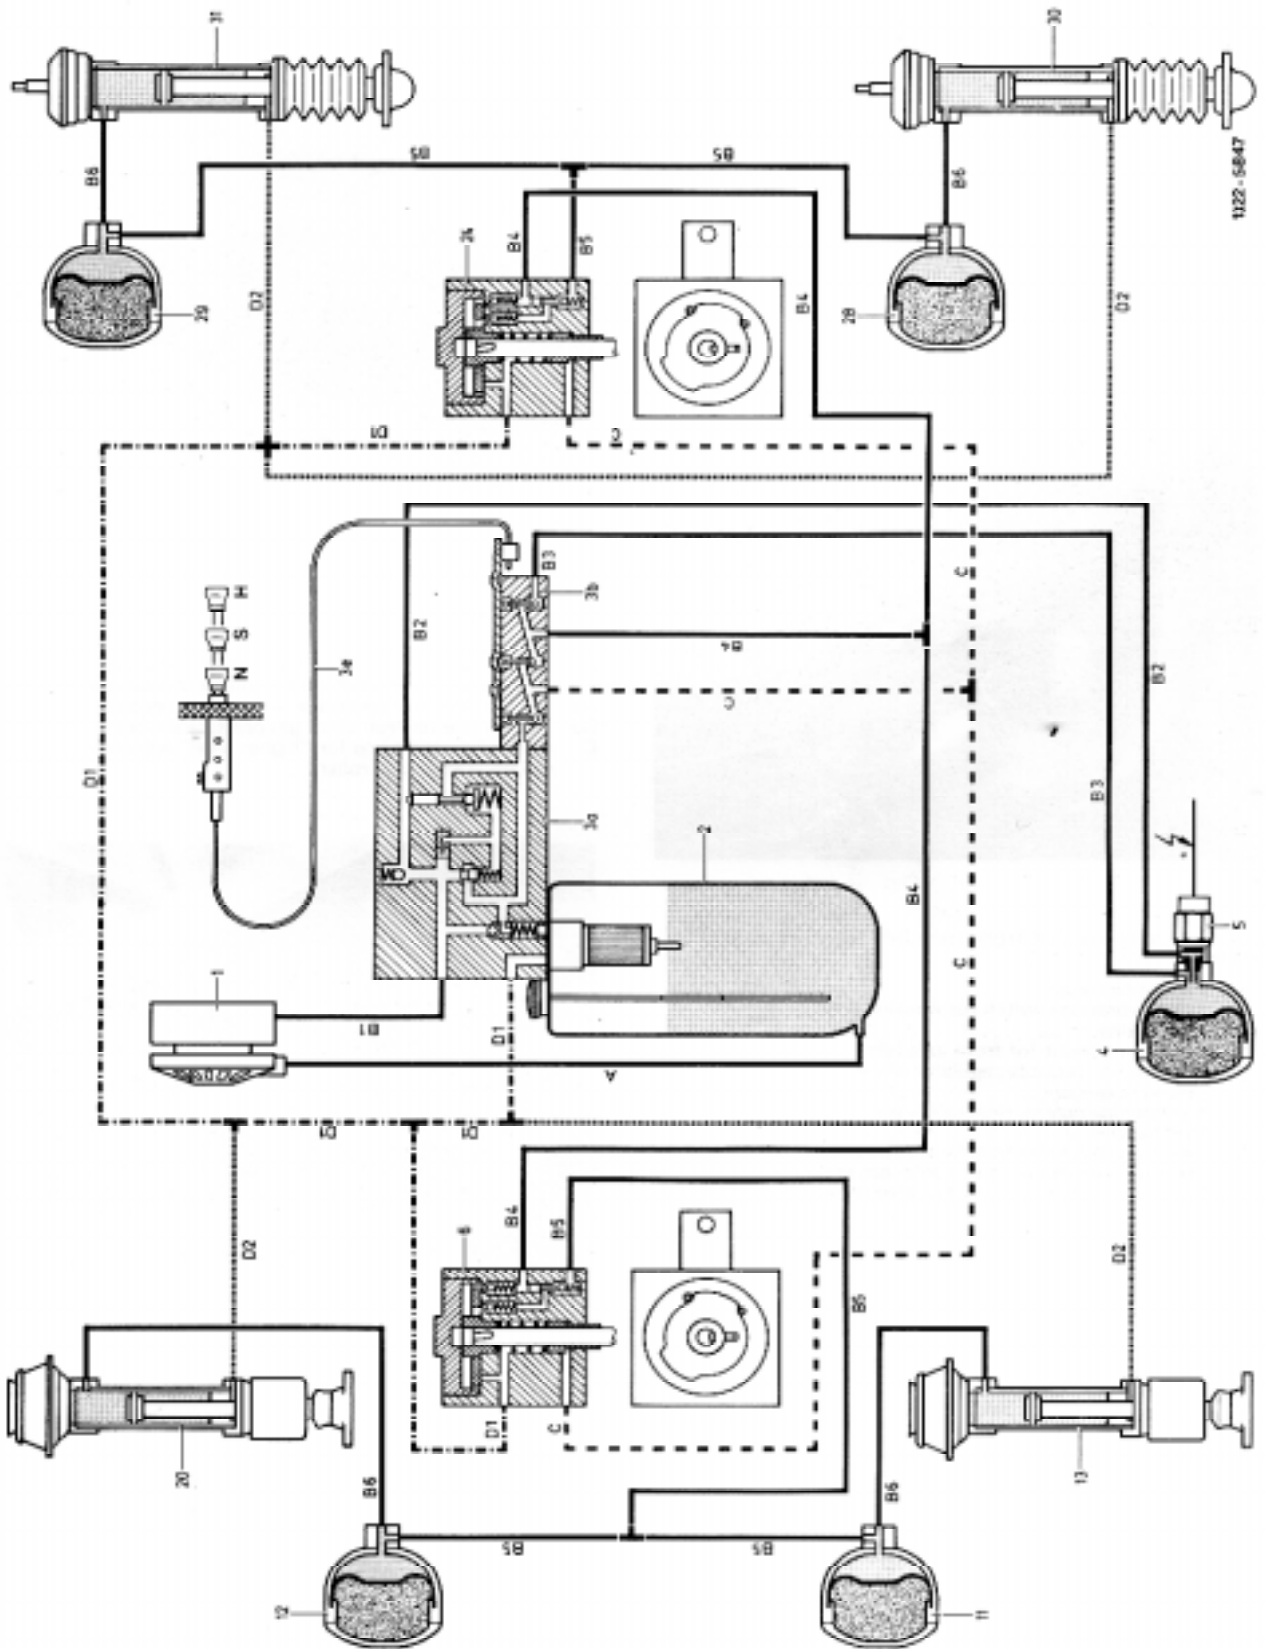

Fig. 2
To regulate the vehicle level, the oil volume in the gas pressure shocks is increased or reduced by means of a **pressure oil system**. The pressure oil system comprises the pressure oil pump (1), the pressure regulator (3a), the central pressure reservoir (4) and the oil reservoir (2). The pressure regulator (3a) and the adjusting switch (3b) of the control device are combined into one valve unit (Fig. 2)